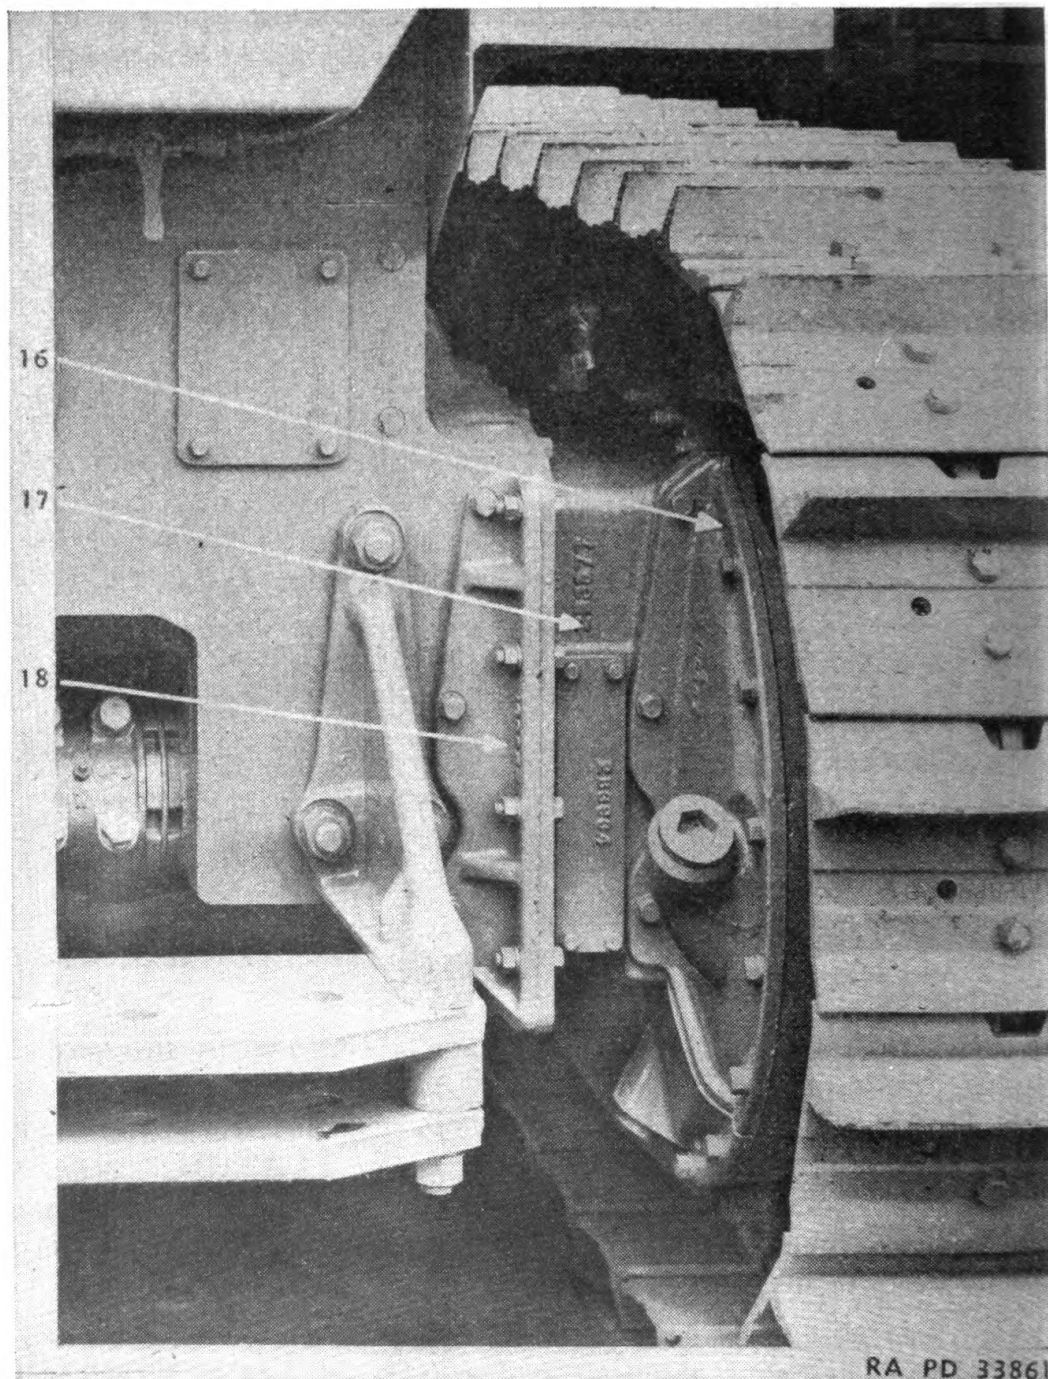

FIGURE 144.—Extension housing.
e. Final drive gear replacement.—After the sprocket has been removed, the final drive case can be separated from the tractor by removing capscrews and bolts (16) (fig. 144) around the flange of the case and prying the case off the dowel pins. The hub and gear can then be lifted off the final drive shaft.
g. Extension housing removal.—A spanner nut locked by a wire ring is threaded on a tapered sleeve which supports the final drive shaft in the extension housing. Working through inspection hole (17) (fig. 144), remove lock and loosen nut several turns. Pry against the nut and loosen the tapered sleeve in the extension housing. After removing the nut entirely from the sleeve and taking out the sleeve, separate the extension housing by removing capscrews and bolts (18).